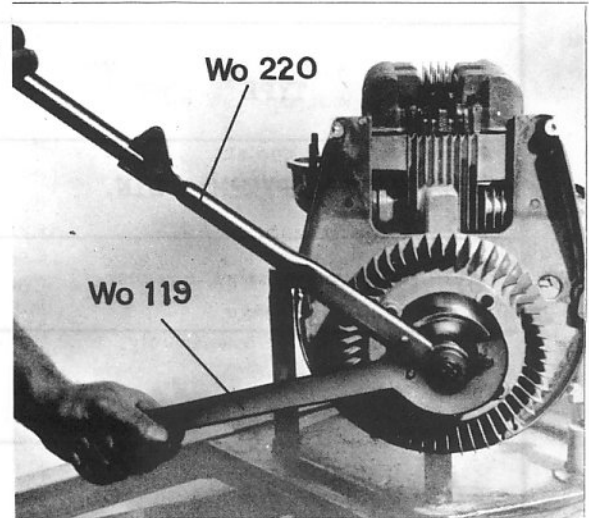

Fig. E1
5. Flywheel nut: Hold emergency starter hub with special tool # WO 119 and loosen the retaining nut M16 with a socket wrench or a torque wrench # WO220 (Fig. E1).